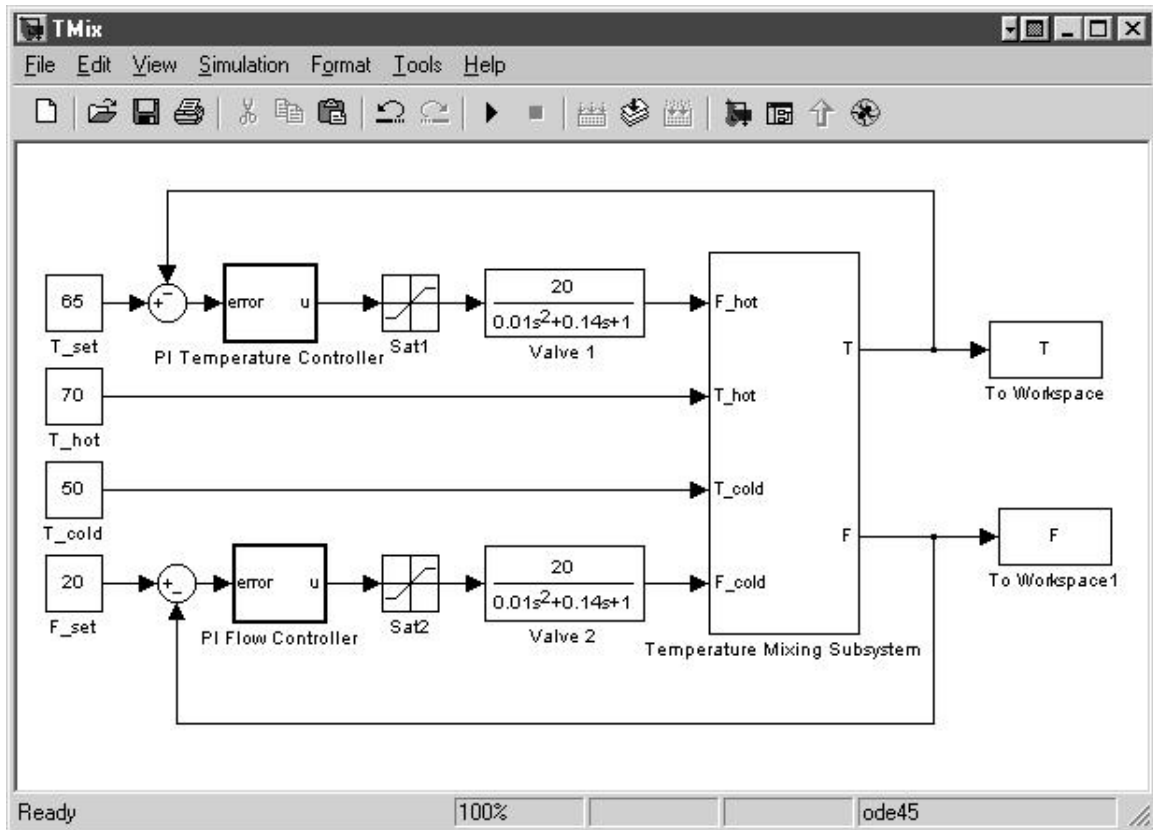

Figure 4.
- m) Reposition and connect the blocks to match the Model window shown in Figure 4.